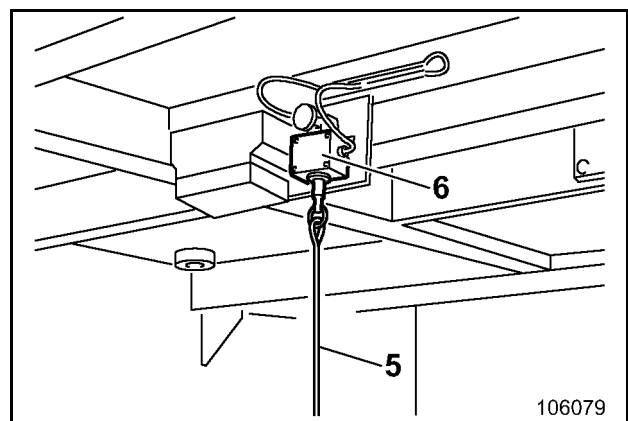

Fig. 2-33:
- by pulling the pull-switch below the counterweight on the left (5, Fig. 2-33:).